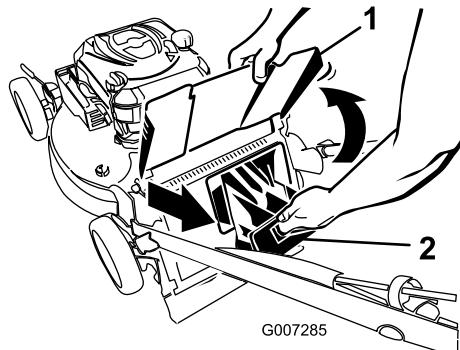

**Figure 21**
1. Route the starter rope around the lower-rope guide (Figure 21).